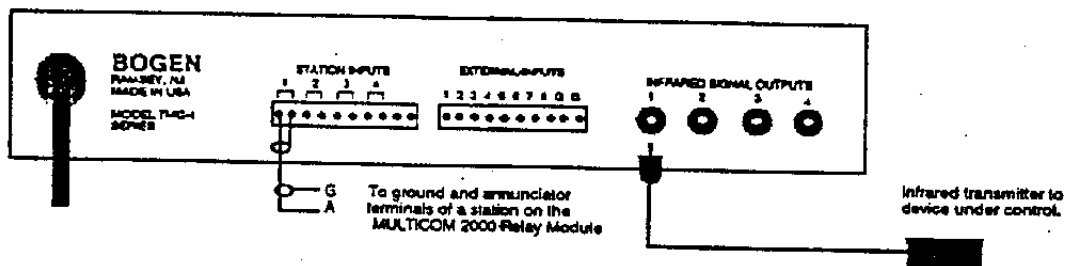

Figure 1A - Connection of TMC-4 to MULTICOM 2000 System (1 Station Shown)
When installed in a Multicom 2000 system, each station on the TMC-4 is connected directly to the annunciator (A) and ground (G) terminals of a station on the relay module. See Figure 1A below.